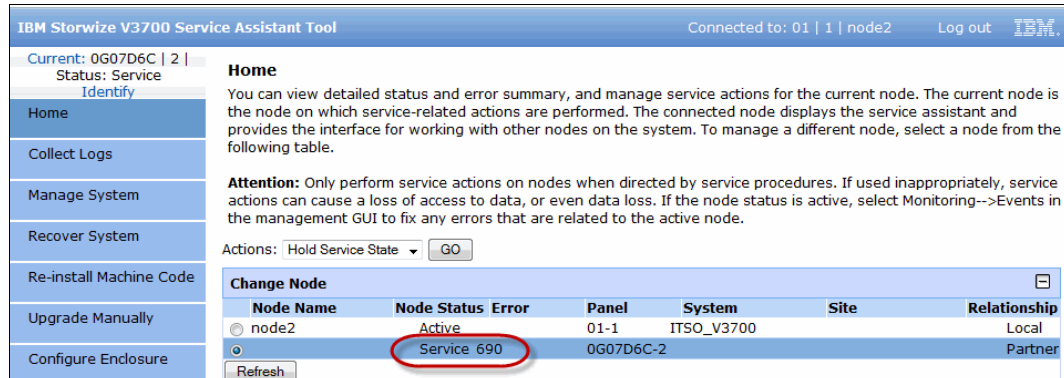

Figure 11-42 Select node in Service GUI for update
11. Open the Service Assistant (SA) tool for the node that you just removed.
12. In the SA tool, the node that is ready for upgrade must be selected. Select the node that shows Node status as service mode, displays an error code of 690, and has no available cluster information, as shown in Figure 11-42.